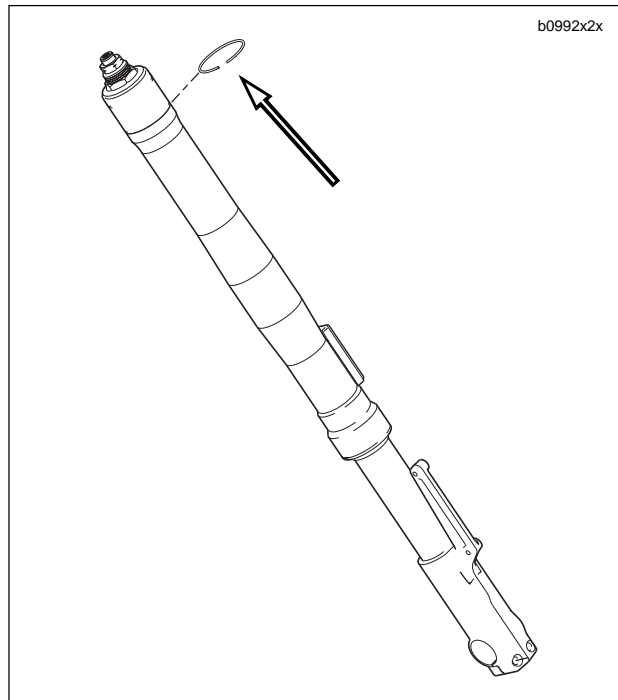

Figure 2-60. Stopper Ring
5. See Figure 2-60. Remove fork from upper fork clamp and slide the stopper ring up and over the top of the fork.